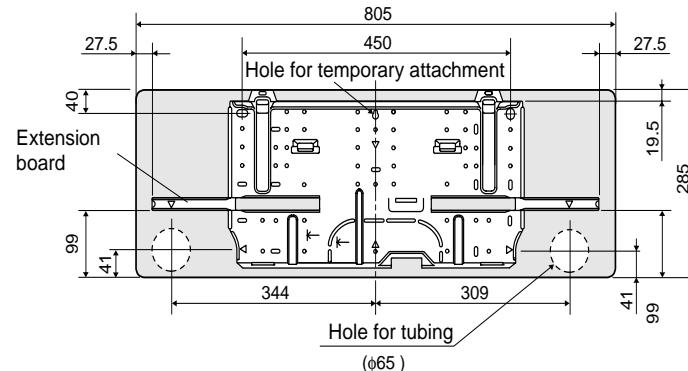

**Fig. 9**
(5) Measure the thickness of the wall from the inside edge to the outside edge and cut PVC pipe at a slight angle 6 mm shorter than the thickness of the wall. (Fig. 9)